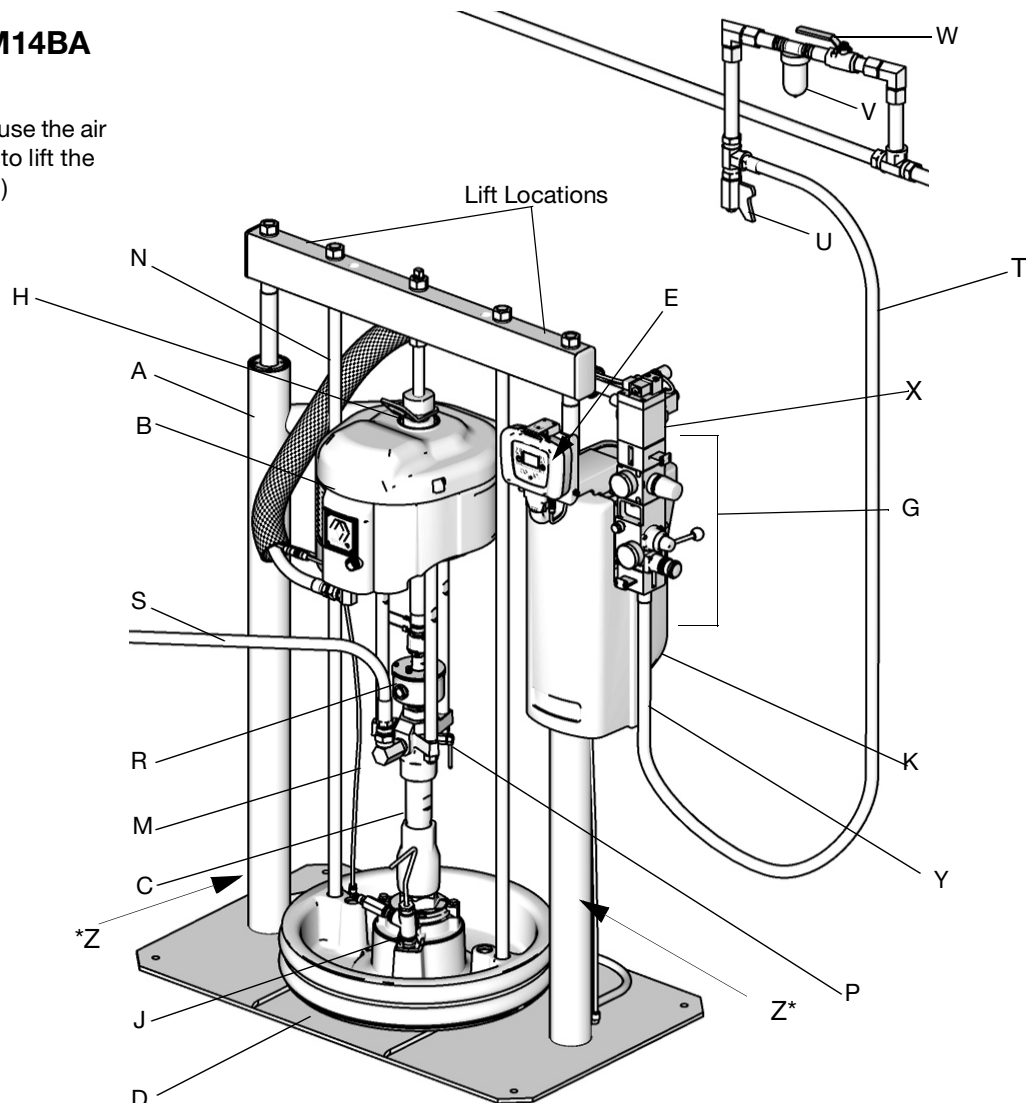
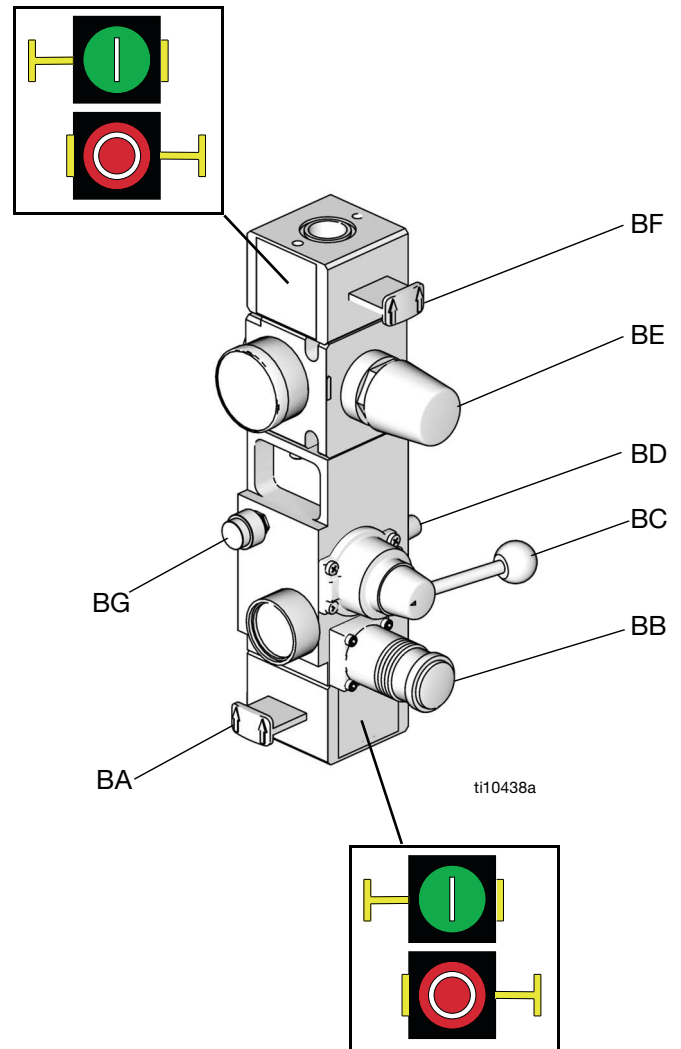

FIG. 2: Typical Installation
FIG. 4
| A Ram Assembly | K Power Supply Box (under shrouding) | V Air Filter (not shown or supplied, see FIG. 2) |
| B Air Motor | P Pump Bleed Valve | W Bleed Type Air Shutoff Valve (not shown or supplied, see FIG. 2) |
| D Platen | S Fluid Line (not shown or supplied, see FIG. 2) | Y Power Switch/Power Cord Connection (on back side of cover) |
| E Remote DataTrak (single ram systems) or Display Module (tandem systems) | T Main Air Line (not shown or supplied, see FIG. 2) | |
| G Integrated Air Controls (see FIG. 4) | U Air Line Drain Valve (not shown or supplied, see FIG. 2) | |
- **Main air slider valve (BA):** turns air on and off to the supply system. When closed, the valve relieves pressure downstream.
- **Ram air regulator and gauge (BB):** controls ram up and down pressure and blowoff pressure.
- **Ram director valve (BC):** raises and lowers the ram.
- **Exhaust port with muffler (BD)**
- **Air motor regulator and gauge (BE):** Controls air pressure to motor.
- **Blowoff button (BG):** turns air on and off to push the platen out of an empty drum.
- **Air motor slider valve (BF):** turns air on and off to the air motor. When in the off position, the valve relieves air trapped between it and the air motor.
Remote DataTrak: The air motor solenoid (X, FIG. 2), the air motor slider valve (BF), and the main air slider valve (BA) must be open for air to flow. (See **Remote DataTrak Setup**, page 29.)
icon represents the opened position, and the  icon represents the closed position. Both slider valves are shown in the opened position in FIG. 4.
See FIG. 2.
FIG. 2 and FIG. 3 are only guides for selecting and installing system components and accessories. Contact your Graco distributor for assistance in designing a system to suit your particular needs.
Always lift the supply system at the proper lift locations (see FIG. 2 and FIG. 3). Do **not** lift in any other way. Failure to lift at the proper lift locations can result in damage to the supply system.
1. Attach a lifting sling at the proper lift spots (see FIG. 2 and FIG. 3). Lift off of the pallet using a crane or a forklift. See **Weight** on page 41.
1. Fill displacement pump wet cup (R) 1/3 full with Graco Throat Seal Liquid (TSL).
3. Connect air line from an air source to the system air inlet. See FIG. 2 and FIG. 3. Refer to the pump performance curves in the Check-Mate Pump Packages Instructions-Parts manual to determine your air supply flow requirements. Use a supply hose capable of meeting the required flow.